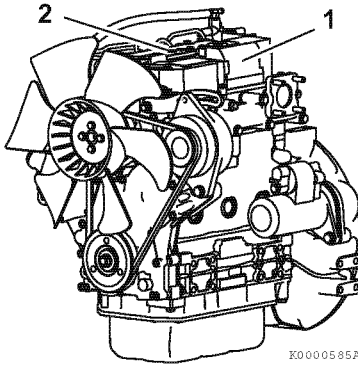

Figure 4-2
Figure 4-2 shows the location of regulatory and safety labels on YANMAR TNV series engines.
The typical location of the emission control information label is shown (Figure 4-2, (1)).
Typical location of the engine nameplate is shown (Figure 4-2, (2)).